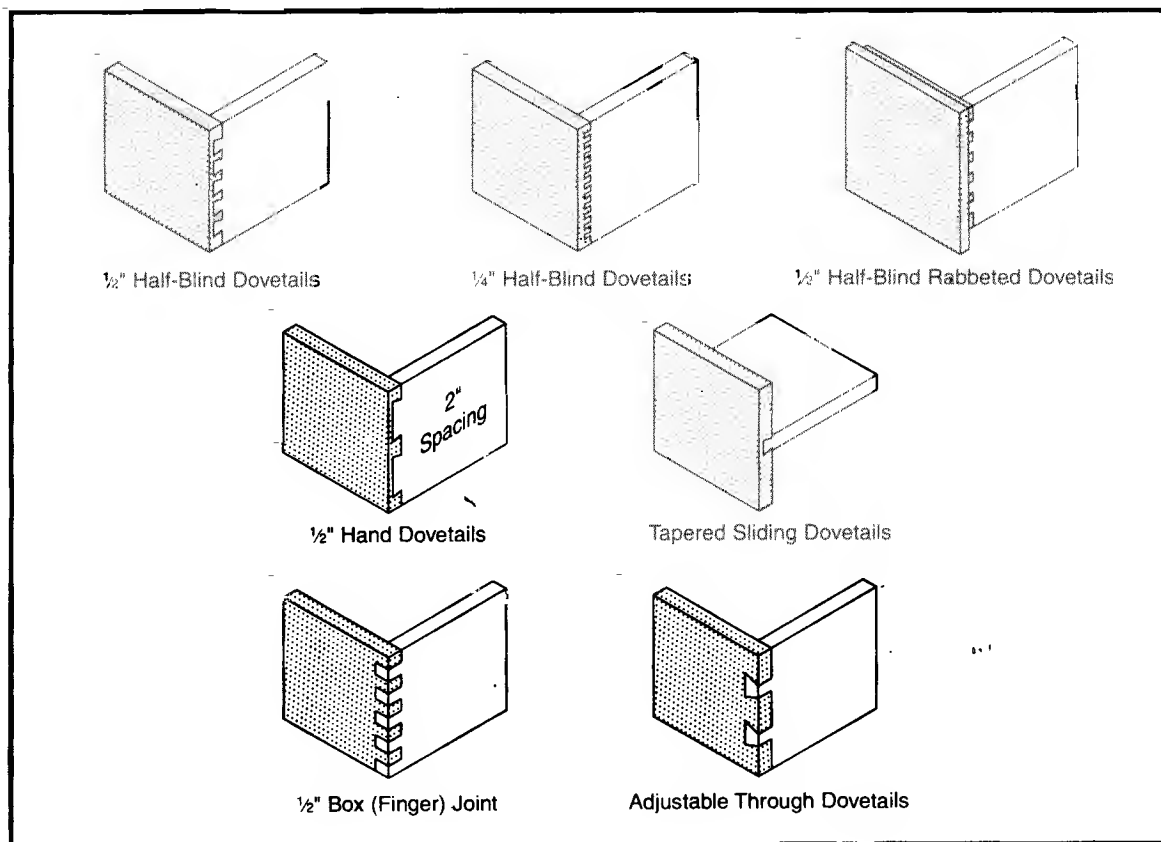

Fig. 1
6. Next, examine the drawer pieces to make sure they have been cleanly routed. See Fig. 1